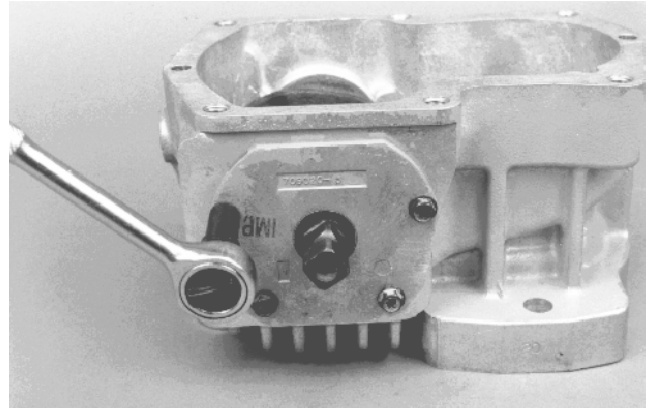

Figure 55
16. Remove hex tapping screws retaining the trunnion seal cover and trunnion cover to housing. Mark position of covers for reassembly. The trunnion seal cover assembly includes an O-ring, lip seal, and trunnion bearing on the control side. The trunnion cover assembly includes an O-ring and trunnion bearing on the side opposite the control. Remove these parts from the housing (Fig. 55).